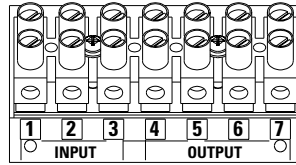

Figure 19. Terminal Block
9. Connect the input and ground wires to the terminal block according to Figure 19 and Table 1.
10. Connect the output and ground wires to the terminal block according to Figure 19 and Table 1.